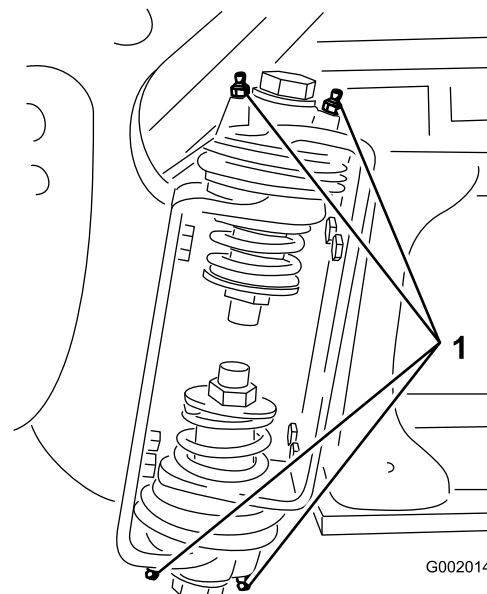

Figure 42
2. Pump grease into the bearing or bushing at each fitting Figure 42.